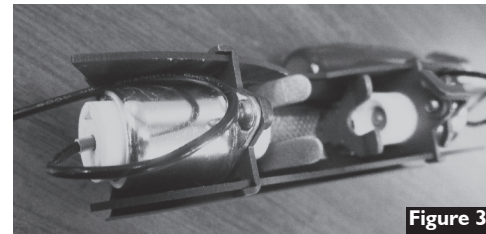

Figure 3
- 4 Install new light sockets in bracket assembly, loop wires around socket to release strain on sockets when in use. **See figure 3.**
- 4 Remove screws (2) retaining the switch plate and undo wire nuts. Note: wires may be connected differently. See figure 3.